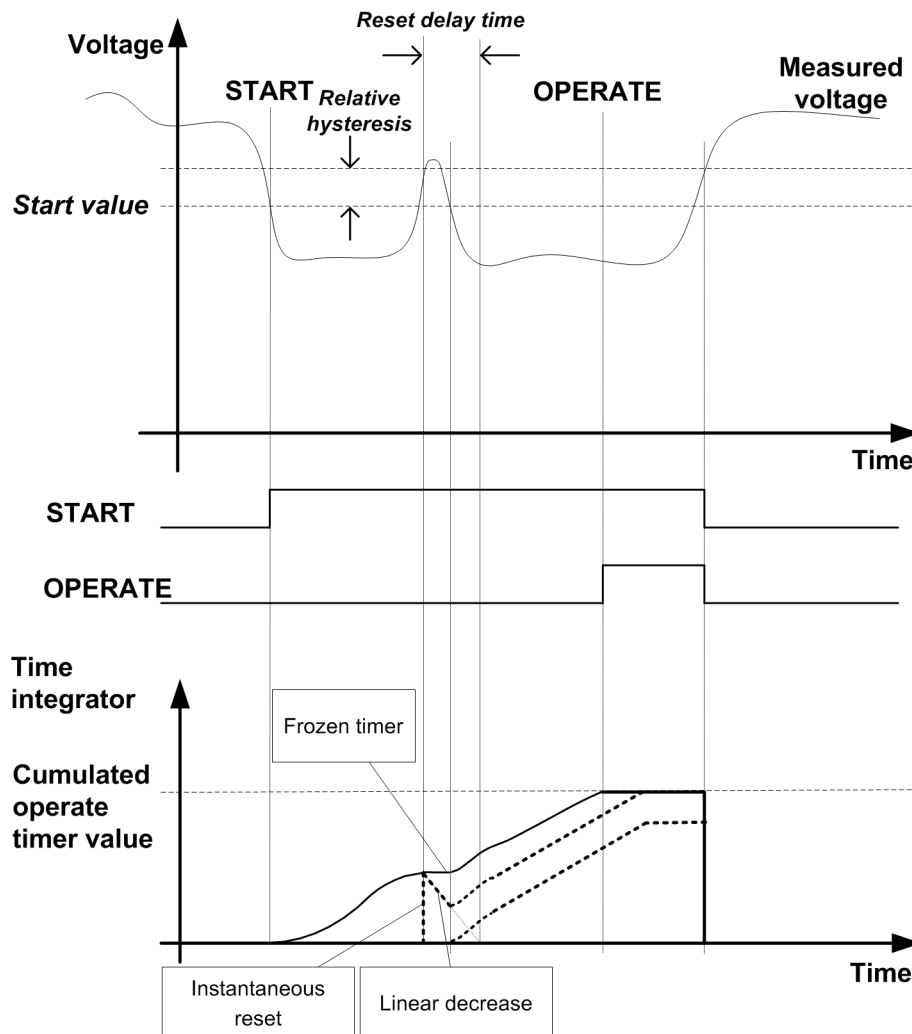

Figure 342: Behavior of different IDMT reset modes
*Figure 342* shows the operate signal based on settings Type of reset curve = “Def time reset” and Type of time reset= “Freeze Op timer”. The effect of other reset modes is also presented.